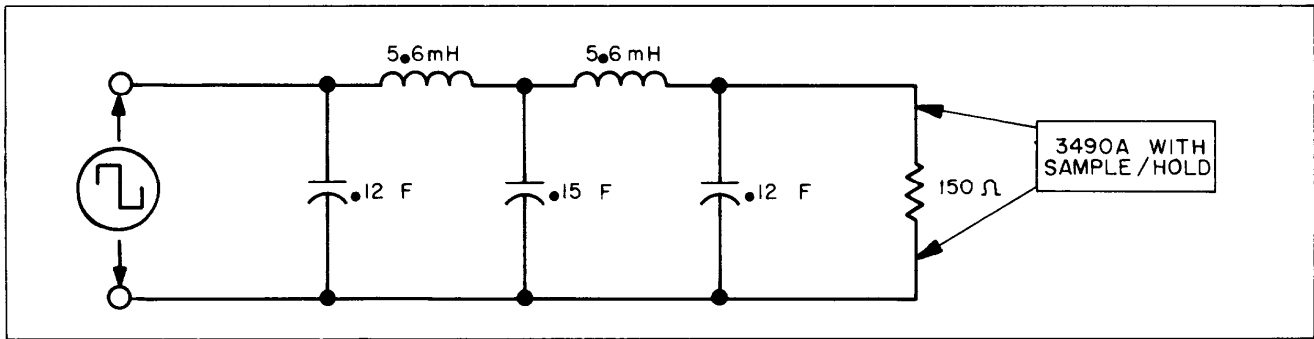

Figure 3-14. Filter Output Measurement.
d. Connect a square wave generator, such as the -hp- Model 3311A Function Generator, to both the filter input and the oscilloscope input. Set the square wave output to 10 V at a frequency such that the duration of one half of the square wave is greater than the expected response time of the filter. For example, a frequency of 300 Hz is satisfactory for the filter shown in Figure 3-14.